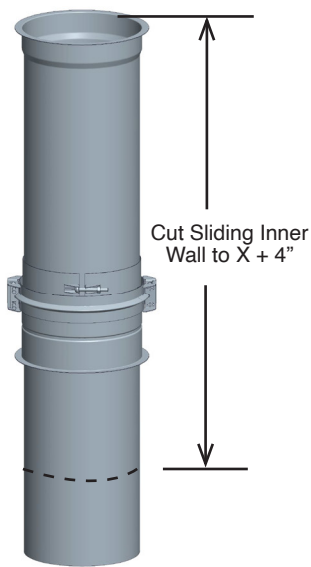

Figure 24a - Step 2 - Cut of the Sliding Inner Wall
2. Cut the inner wall at the dimension X found at the first step + 4". See Figure 24a.